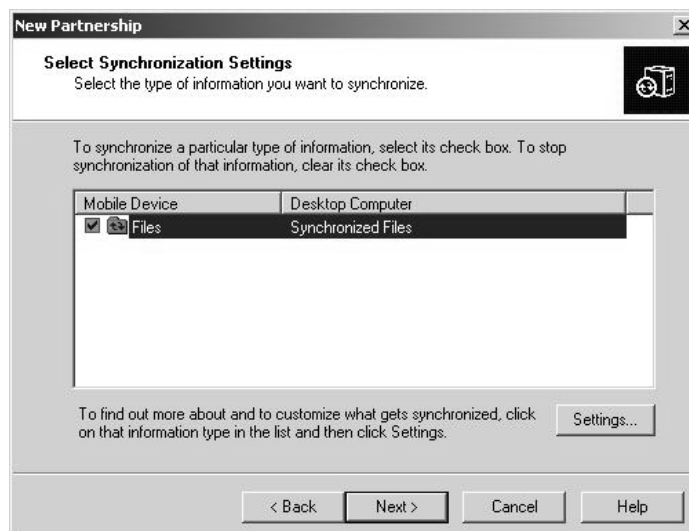

Figure 4-4 Selecting Synchronization Options
4. Select **Yes**, and then click **Next**. The Select Synchronization Settings options are displayed (Figure 4-4).
5. Select the **Files** option on the Select Synchronization Settings window (Figure 4-4).